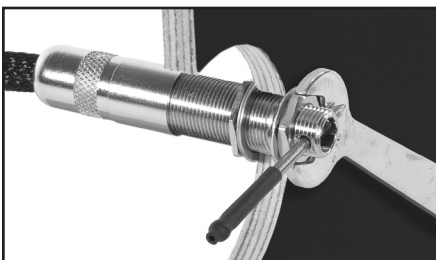

Figure 9d – Tighten the jack
4. Place the 12mm wrench on the retaining nut. Insert the jack-tightening pin through the cross-drilled hole in the threads of the jack. Hold the jack in position with the pin and use the 12mm wrench to firmly tighten the retaining nut (see figure 9d).